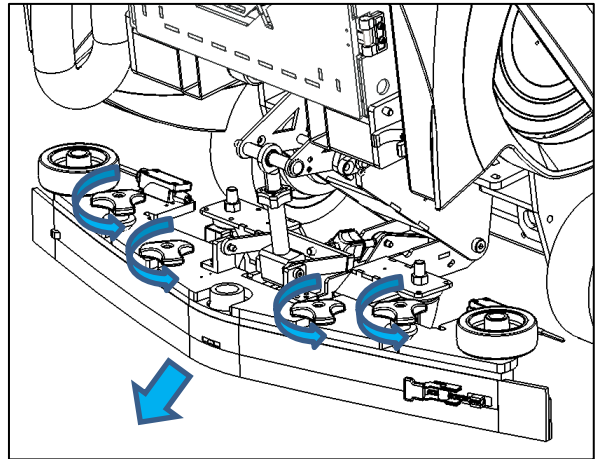

Fig. 2
2. Loosen the knobs and pull the squeegee assembly out (Fig 2).
3. To remove the squeegee assembly from the robot, loosen the two outer mounting knobs, pull the Squeegee assembly out and place it on level ground (Fig. 2).